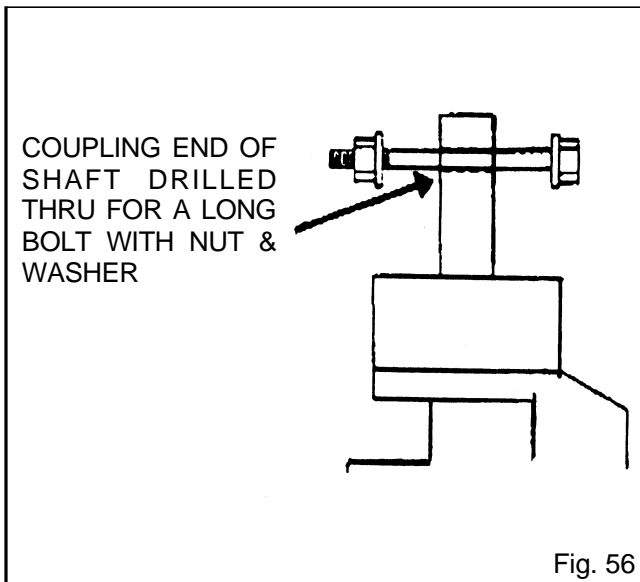

Fig. 56
13. Thread a long bolt, washer and nut through the hole at the end of the shaft. (See Fig. 56)